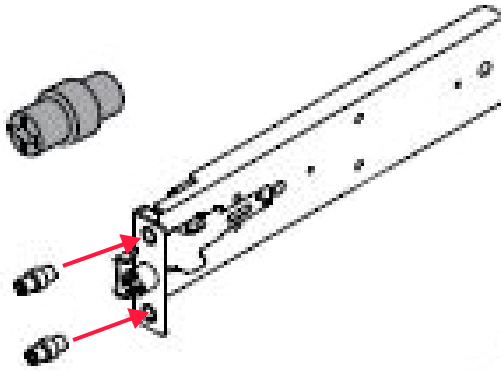

Figure 4.10 Installing 7.1-inch screws
2. Install the eight 7.1mm screws (used for racks with round post holes): two on each of the brackets on the front and rear outer cabinet member rail as demonstrated in Figure 4.10 on page 37.